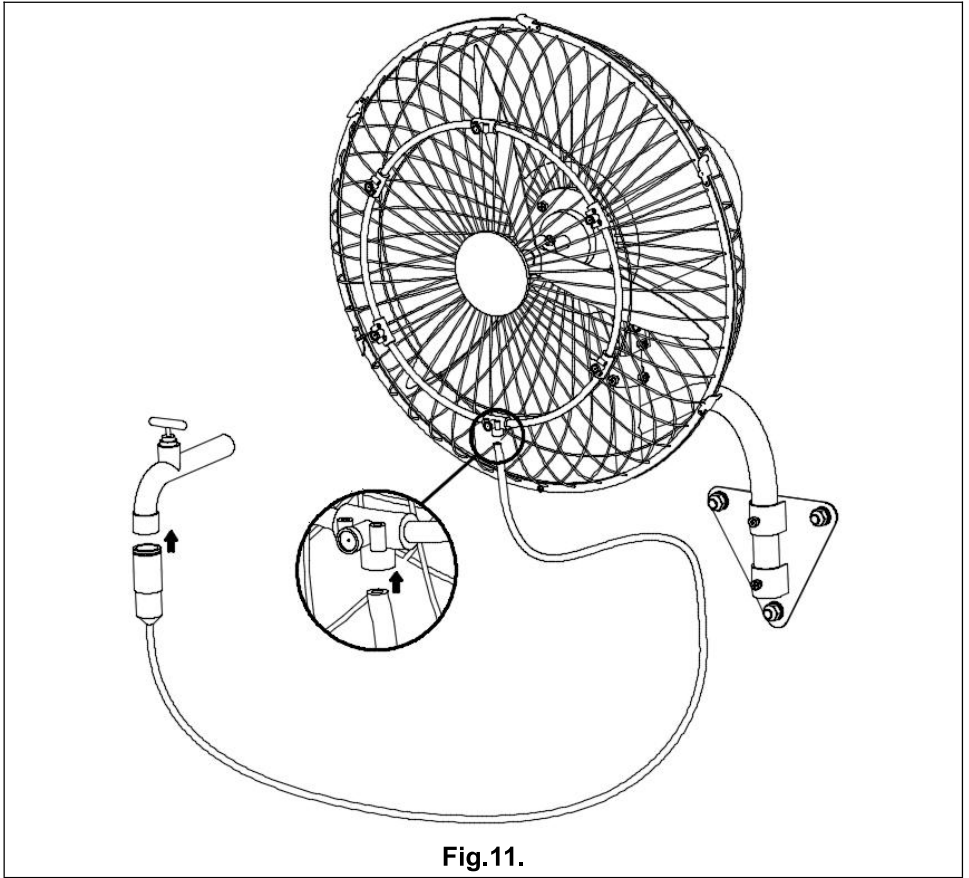

Fig.11.
2. Connect the water pipe to the faucet and the spray nozzle respectively, and tighten the faucet. See the (Fig.11.) Done!